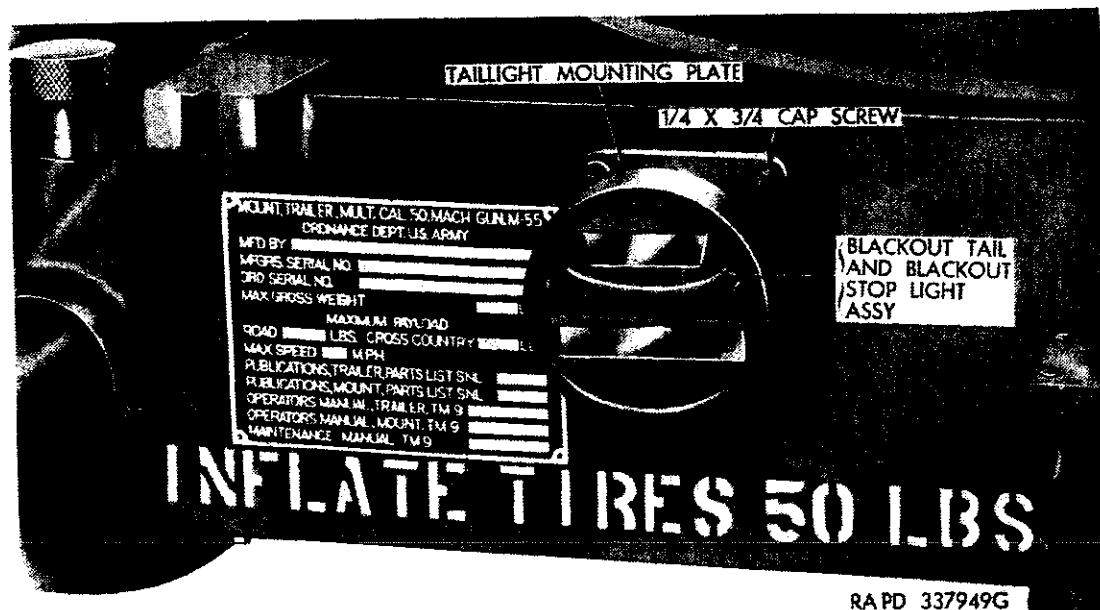

Figure 79. Blackout tail and blackout stop light assembly mounted on trailer.
*a.* The trailer electrical system consists of the blackout tail and blackout stop light assembly located at the left rear of the trailer body (fig. 79), the jumper cable plug socket assembly mounted on the left side of the drawbar near the front jack assembly (fig. 28), and the jumper cable.
- (1) Remove four cap screws from taillight mounting plate (fig. 79). Remove light assembly with mounting plate from trailer body.
- (2) Disconnect two plug and cable assemblies from taillight assembly. Remove two nuts and two lock washers. Remove taillight assembly and gasket from mounting plate.
- (2) Install taillight assembly with mounting plate and gasket to trailer body (fig. 79). Secure with four cap screws.